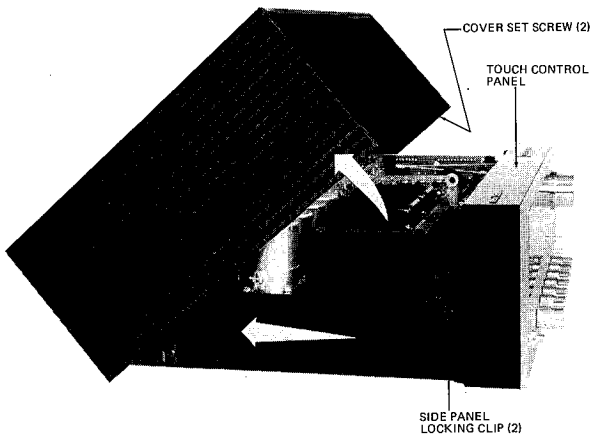

FIGURE 1
2. Slightly loosen the top cover set screws located on the bottom surface at the front of each side panel. (Figure 1)
1. After top cover has been tilted backwards or removed, remove small side panels secured against front panel by two locking clips. (Figure 1)
2. Remove touch control panel (Figure 1) secured by 2 screws on each side and lay panel to one side.